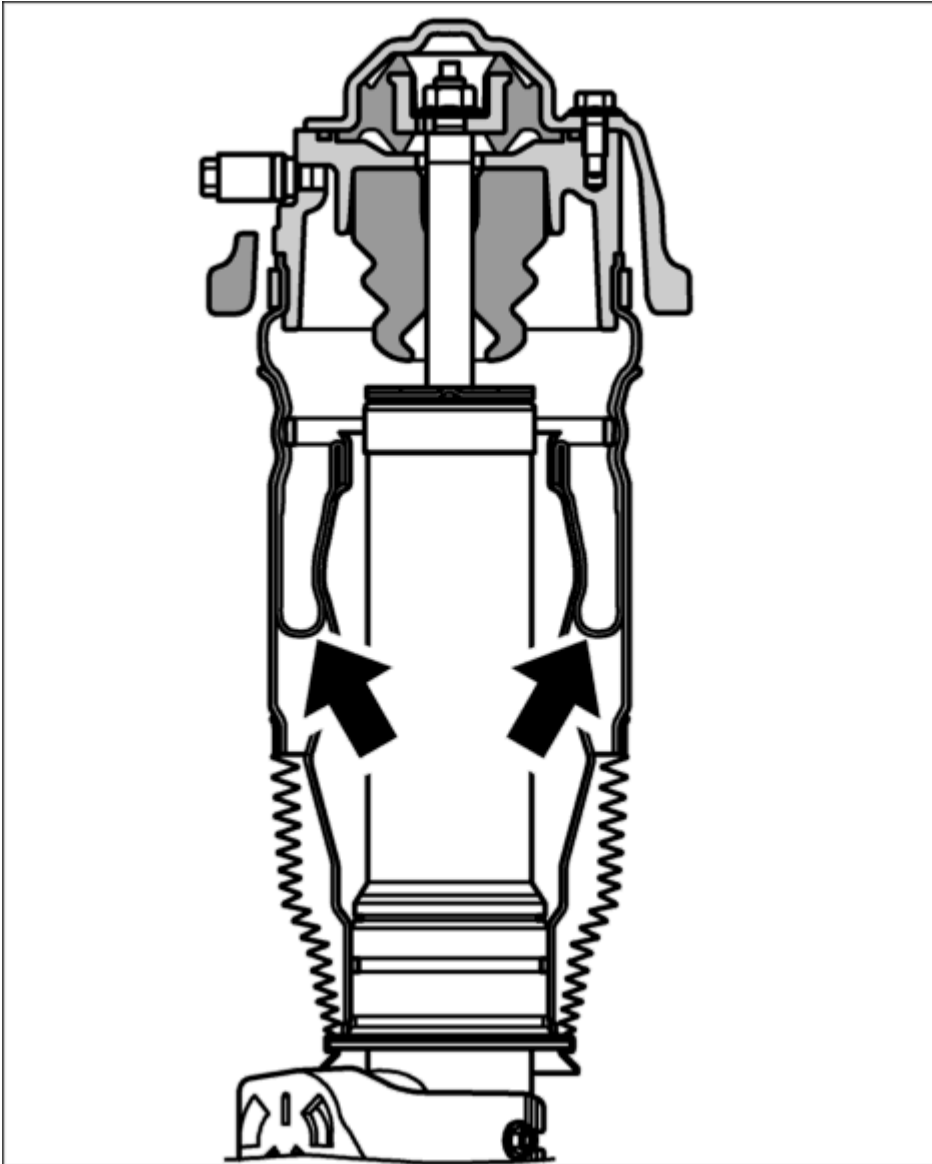

Fig. 44: Roll fold
4. Position the air spring on the shock absorber. Grasp the rolling piston and push it downward by turning it slightly to the left and right. If the rolling piston has slipped out of the outer guide, it must be pushed back in again while forming a circumferential uniform roll fold on the rolling boot -**Arrows**- . See **Fig. 44**.